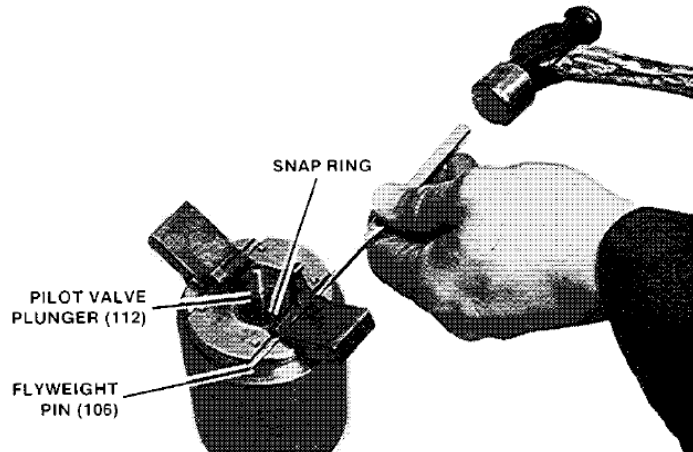

Figure 5-7. Ballhead Disassembly
10. Gently tap on the end of flyweight pins (106) to remove from ballhead (109). Use ID snap ring pliers 189791 to remove snap ring (114). Carefully remove pilot valve plunger (112), and compensation bushing (113) from ballhead (109) (Figure 5-7).